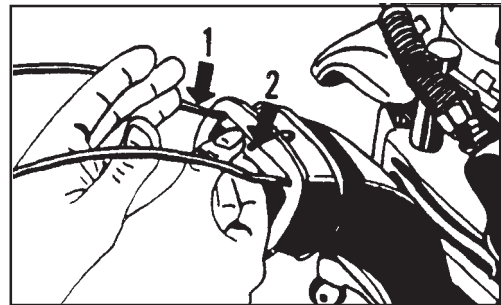

Figure 2
4. Put the ends of the support rod in the exhaust pipe (1). Make sure the bent ends of the rod are pointing in the down position. See Figure 2
5. Slide the bar in position to hold the support rod (2). See Figure 2.